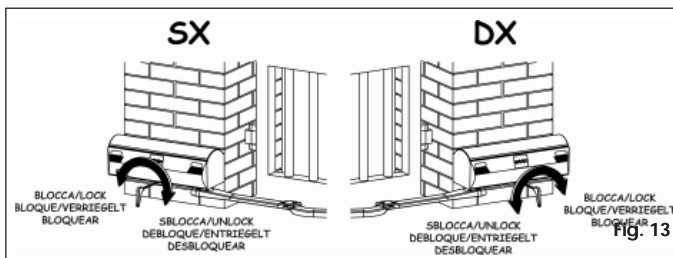

Fig. 13
- Fit the supplied Allen wrench and turn it by about a half turn until it stops, in the direction shown in Fig. 13, depending on type of installation.